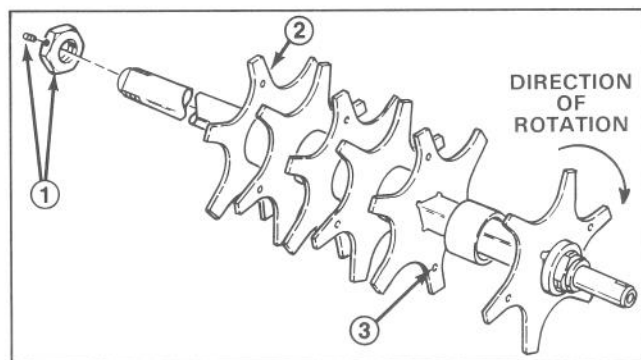

Figure 10
3. Change blades when they are worn to guide holes (Fig. 10).
8. Loosen set screw securing nut to left side of reel shaft. Remove nut (Fig. 10).
10. Reinstall spacers and new blades as shown in Fig. 10. Make sure blades are alternated properly and leading edge of each blade is correct for the direction of rotation.